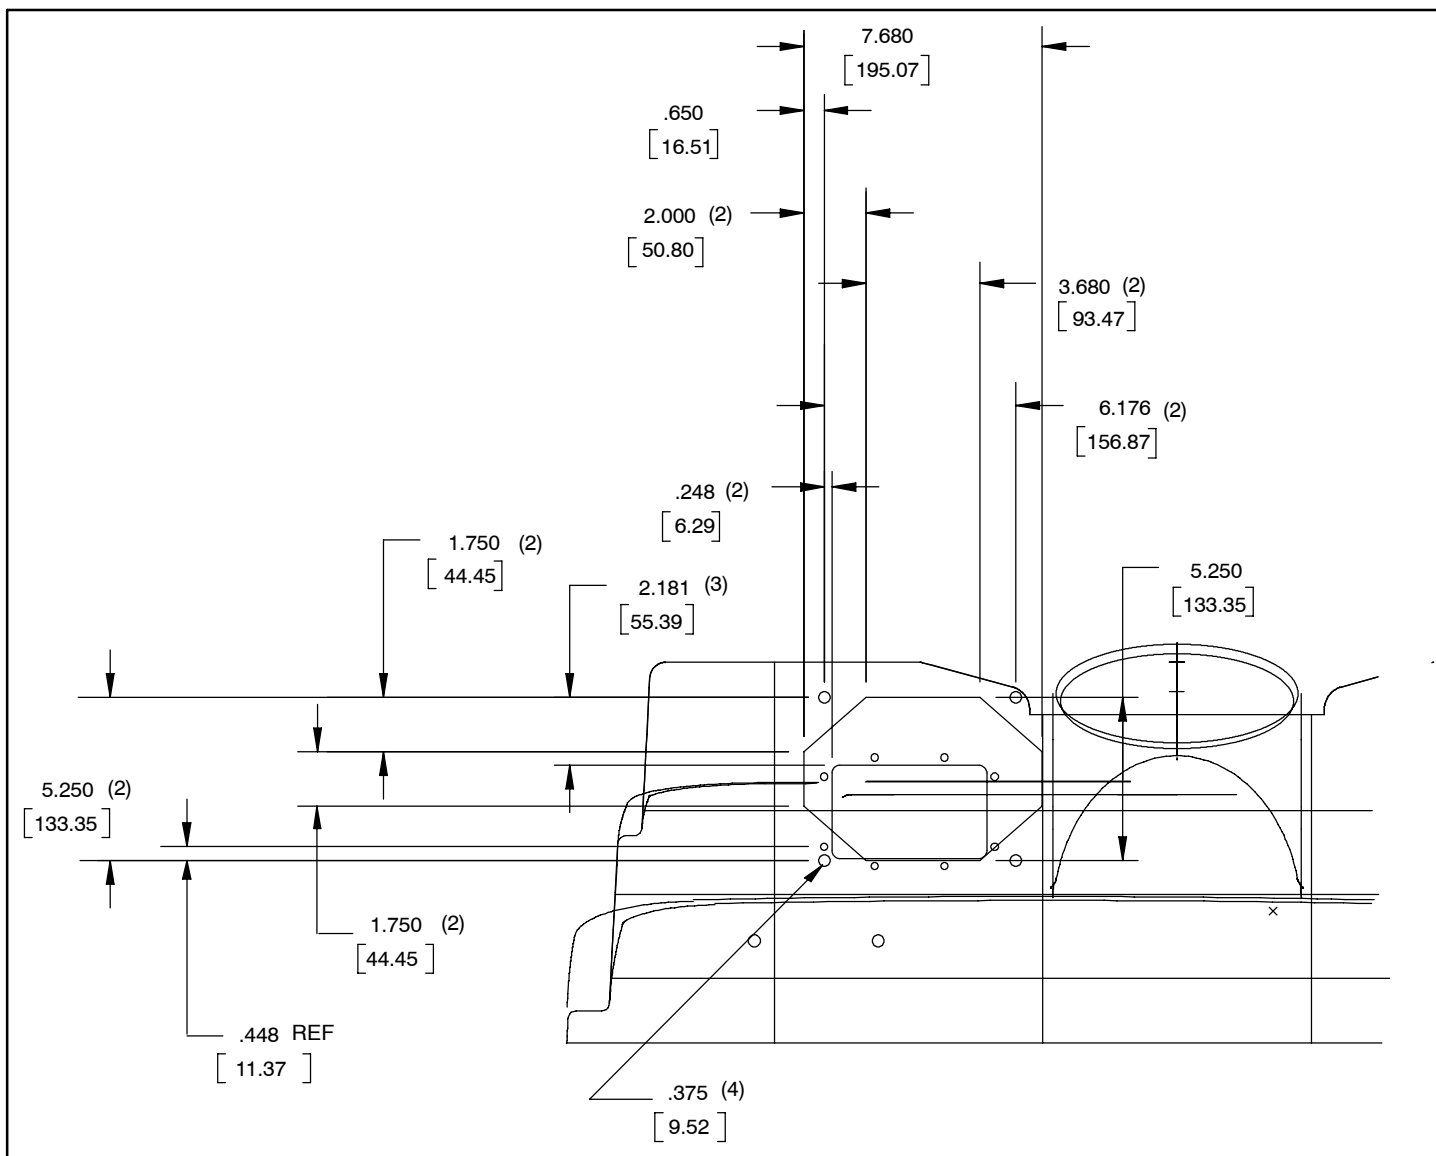

FIG. 2 - HOPPER COVER REWORK
3. Drill the mount holes and cut the access hole into the hopper cover. Refer to Fig. 2 for dimensions.